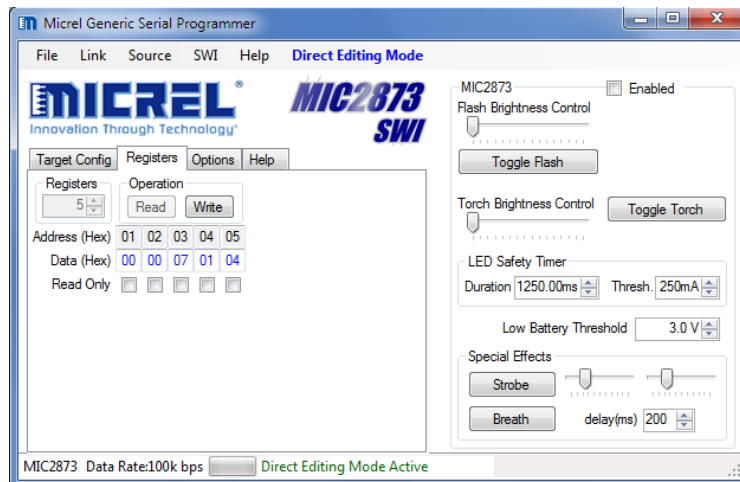

Figure 10. MIC2873 Evaluation Software GUI with Registers Tab Selected
2. “Registers” tab – as show in Figure 10, user can check with the MIC2873 registers information and perform on-the-fly write operation to the IC registers. If the user knows the exact valid data value to the registers, the data value can be entered to the data edit box corresponding to the target register and then click the “Write” button. When the mouse cursor is hovering over the register Address, Data, or Read Only edit/check boxes, a dynamic tooltips box will show up to indicate the corresponding register name and the functional name of the individual register bits.